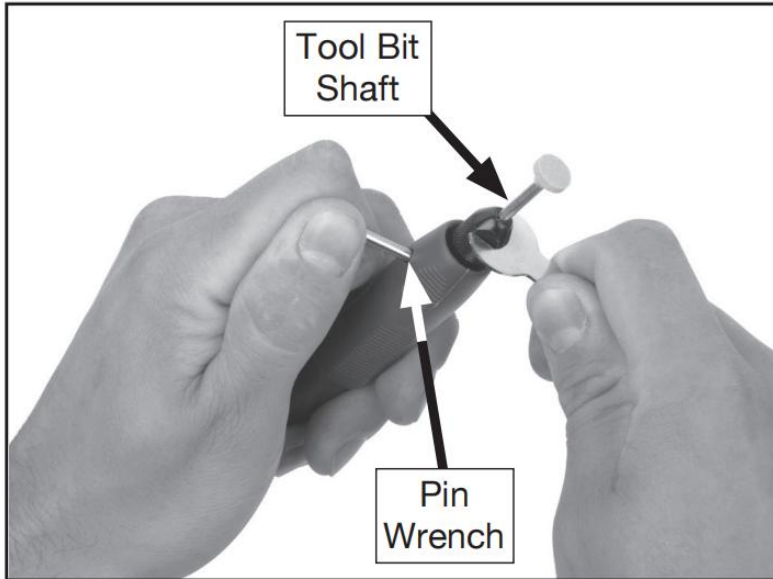

Figure 20. Tightening rotating shaft collet.
6. Tighten 1/3 of a turn with collet wrench (see **Figure 20**). DO NOT over tighten.